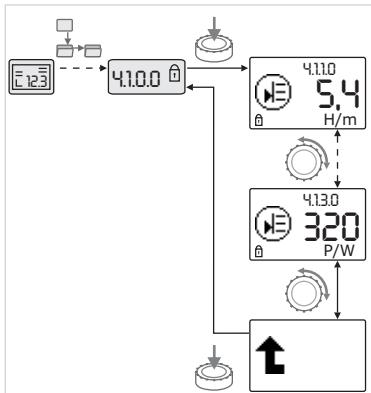

Fig. 40: Calling up information
- Turn the operating button to access the "Information" menu elements in the current sub-menu (see Fig. 40). For an explanation of the settings represented by the symbols, see the table in chapter 8.7 "Menu elements reference" on page 102.